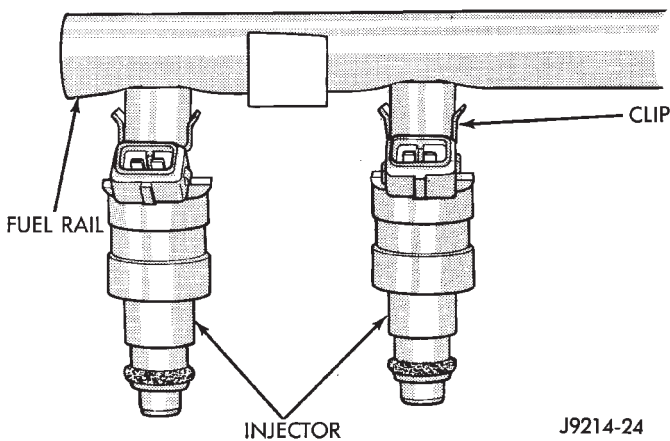

Fig. 13 Fuel Injector Clip
(13) Remove the clip(s) retaining the injector(s) to fuel rail (Fig. 13).